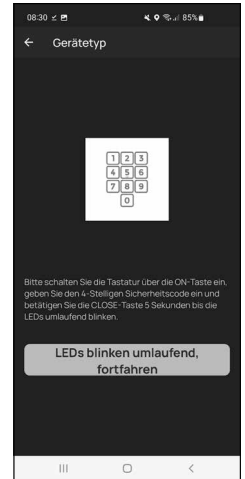

Fig. 5
⑤ You will be asked to set the keypad to programming mode (Fig. 5). Instructions on how to do this can be found in the chapter "Setting the keypad into programming mode" on page 3. As soon as the keypad is in programming mode, indicated by the LEDs on the keypad flashing continuously, tap the "LEDs flashing continuously, continue" key in the app (Fig. 5).
⑥ If the link is successful, a completion message appears, which can be confirmed with "OK". The same applies to the subsequent "Done" field to complete the setup.